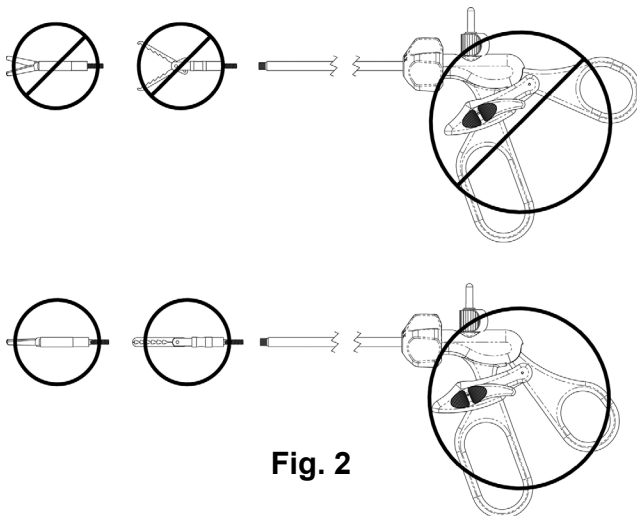

Fig. 2
- Gently close the blades/jaws with your index finger and your thumb to ensure complete closure (See Fig. 2).